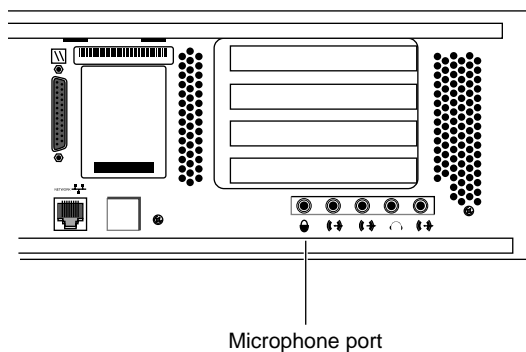

Figure 3-6 The Microphone Port
2. Connect the microphone that came with your Indigo² IMPACT workstation to the microphone port on the back of the workstation (Figure 3-6).